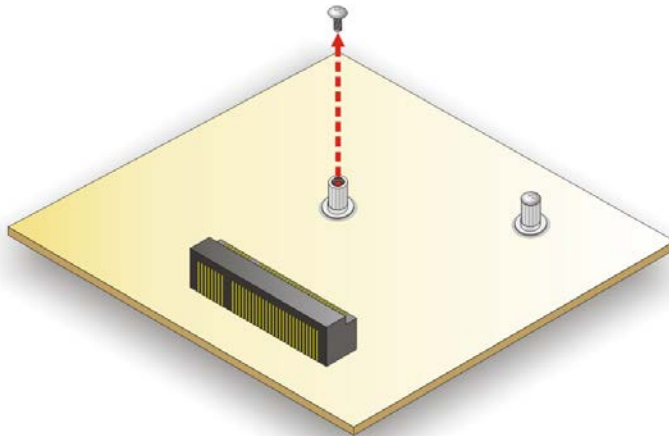

Figure 3-19: Removing the Retention Screw
Step 4: Remove the retention screw for half-size card installation as shown in **Figure 3-19**.